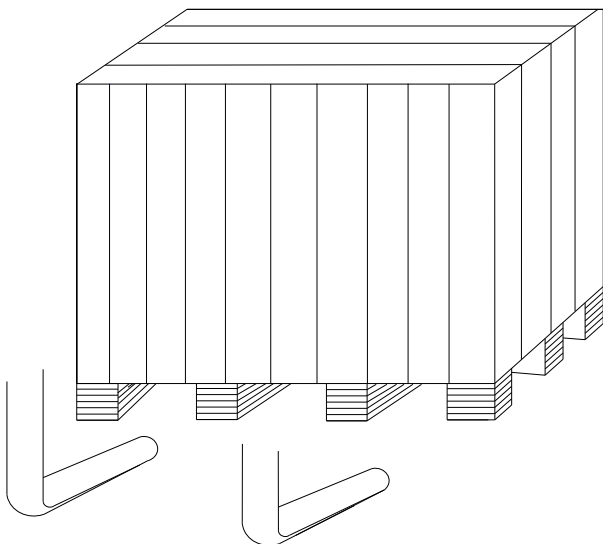
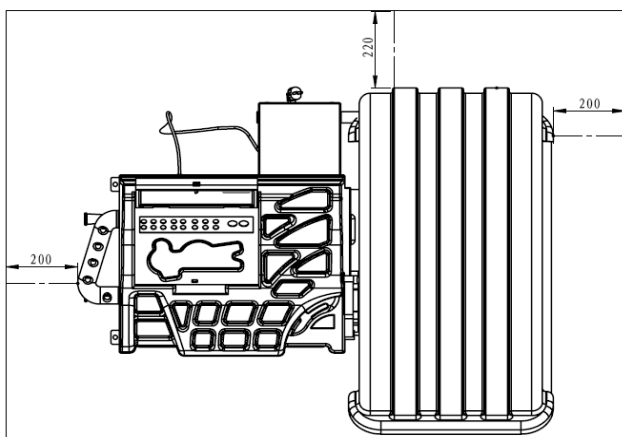

Fig 4
Fig5
4.1.1 After being sure that the package of your machine is perfect, you can carry the wheel balancer to the installation site.(Fig4). The choice of the installation should comply with the following requirements. The ambient temperature is 0°C-50°C and the RH ≤85%. And the installation site as shown in Fig5.